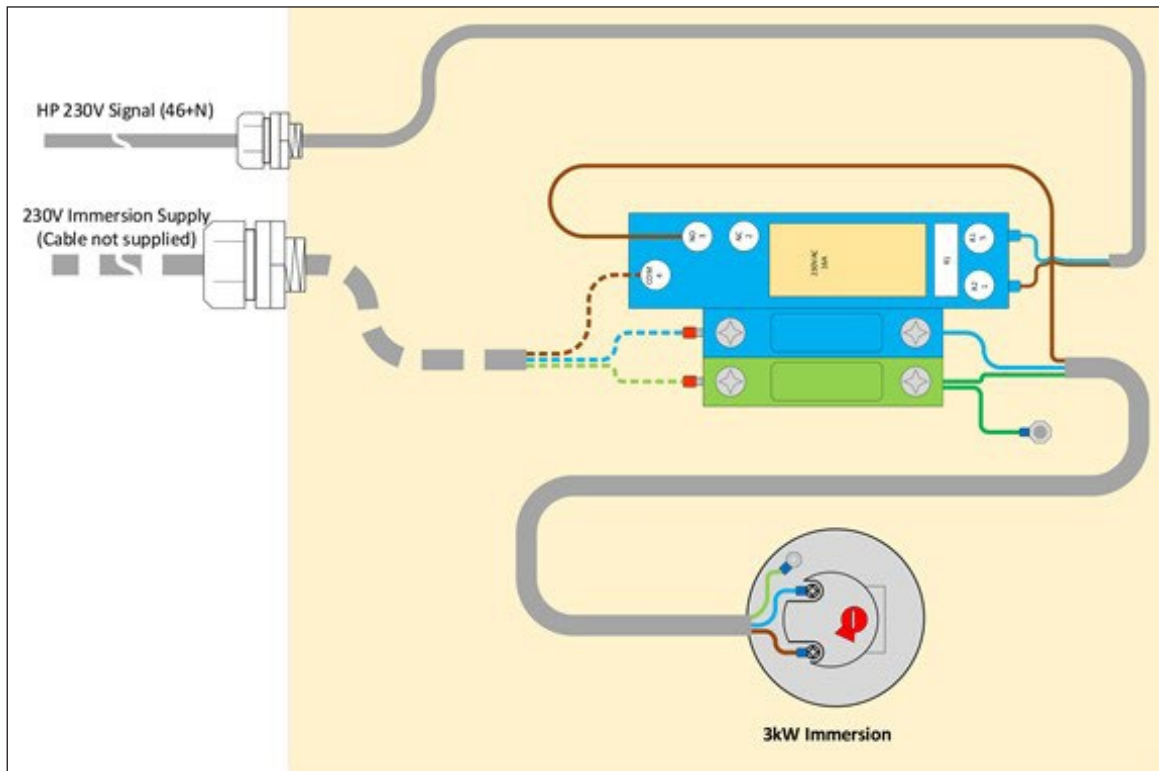

Figure 4-3: Connection diagram for Grant Combined Volumiser/Low Loss Header
- Earth to Earth Terminal (Green terminal block)Refer to Figure 4-3 for volumiser/header connection diagram.
To connect the immersion heater control wiring to the electrical terminals in the volumiser/header, refer to Figure 4-3 and proceed as follows:
Refer to Figure 4-3 for header/volumiser connection diagram.